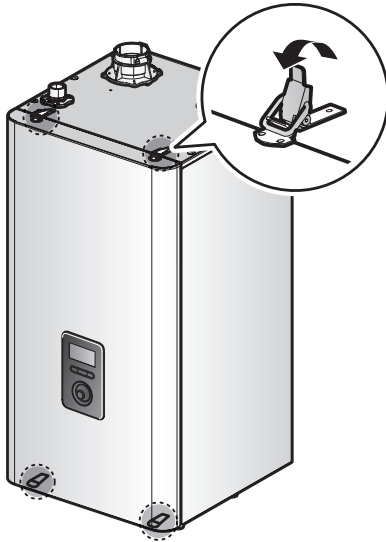

Figure 1. NFC Series Front cover
2. Unfasten the 4 latches (2 at the top and 2 at the bottom) to remove the front cover and gain access to the internal components. See Figure 1 for illustration of the front cover clamps.